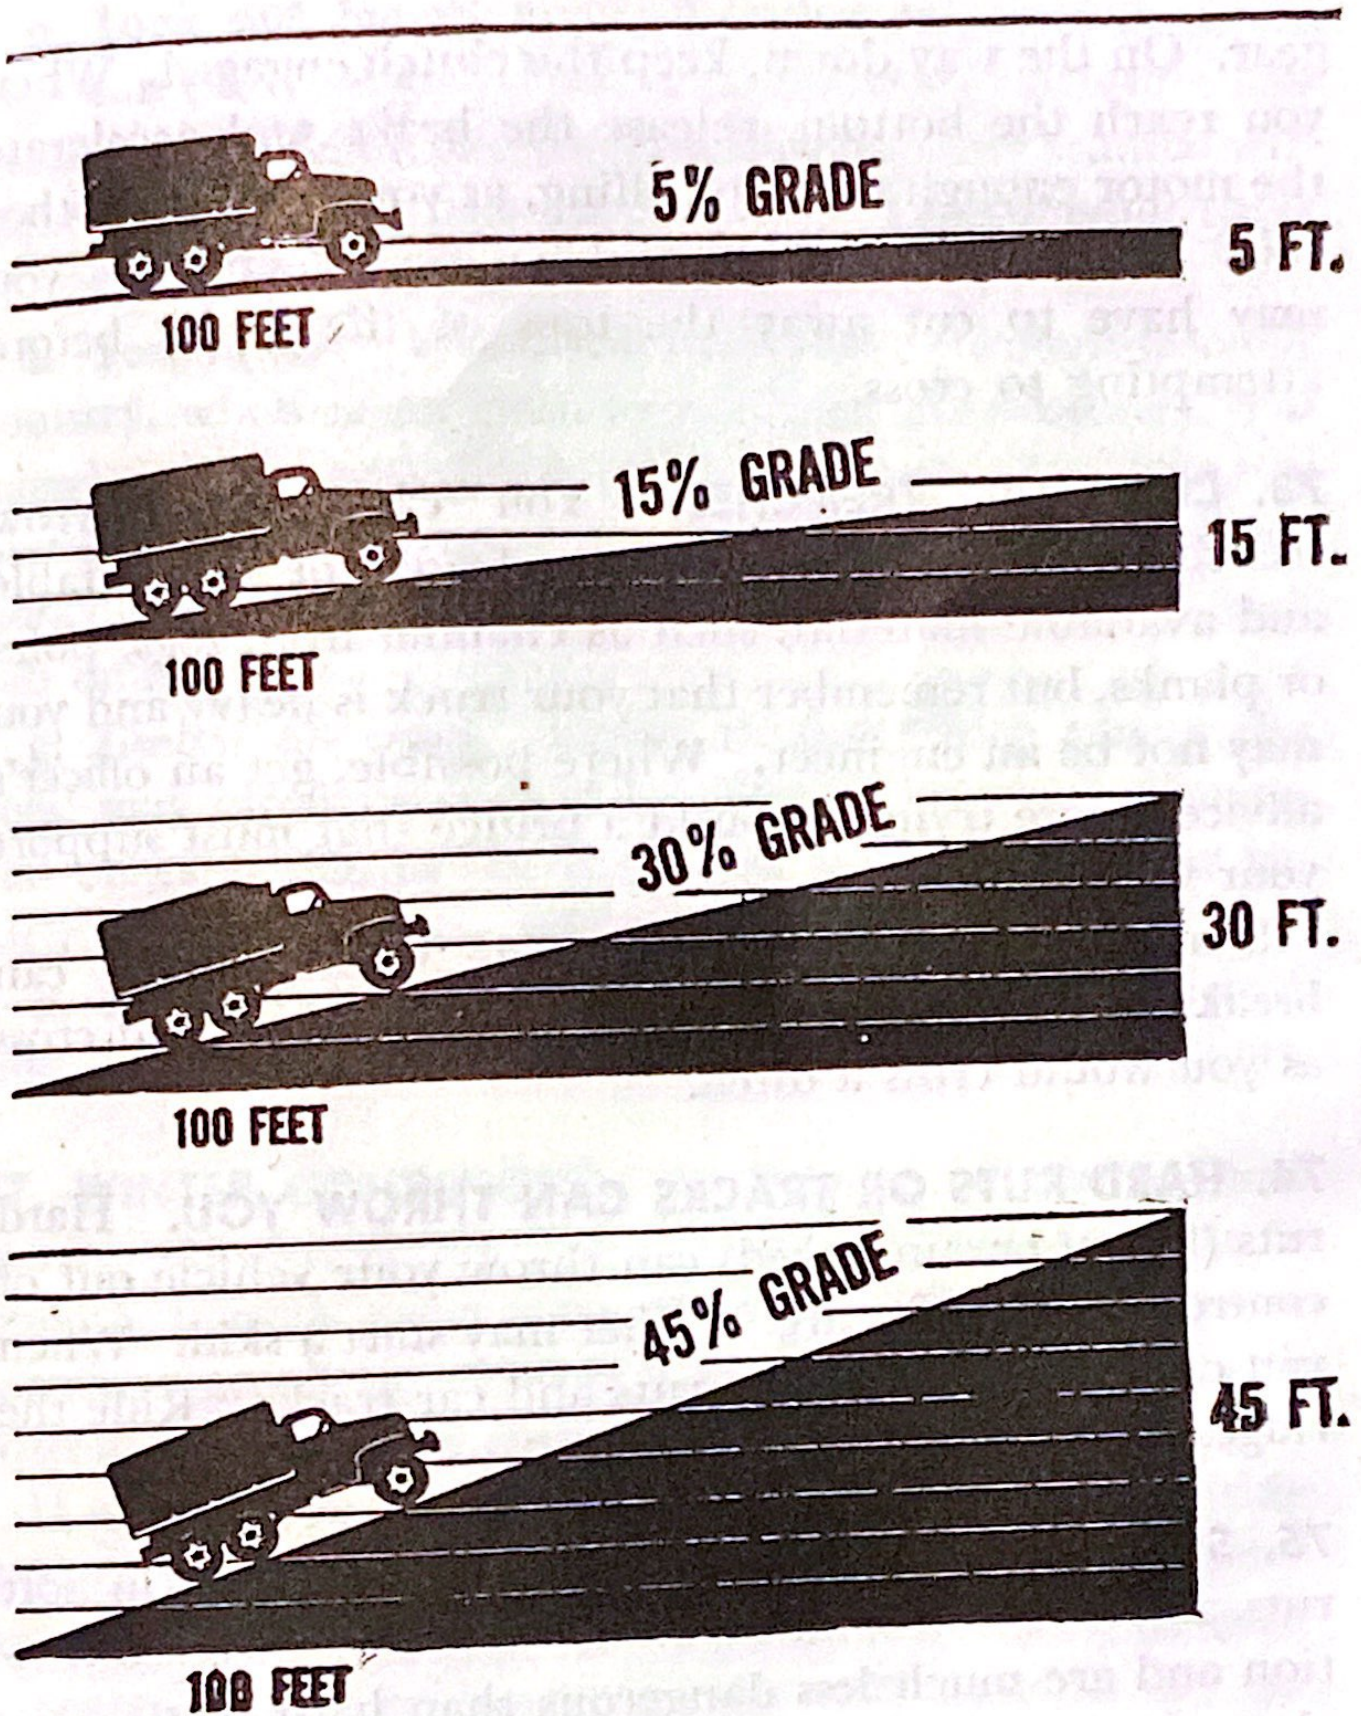

Figure 31. How steep is the grade?
b. Steep upgrades. Before driving up a steep grade, also make sure that the lowest gear is engaged. (See fig. 31.) If the traction is poor you may have to use a winch. With the aid of a winch cable fastened to a tree or to a "deadman," or to other vehicles, your vehicle can pull itself up the grade. If your truck has no winch, you may get help from one that has. In the absence of a winch, ordinary block and tackle may be used.